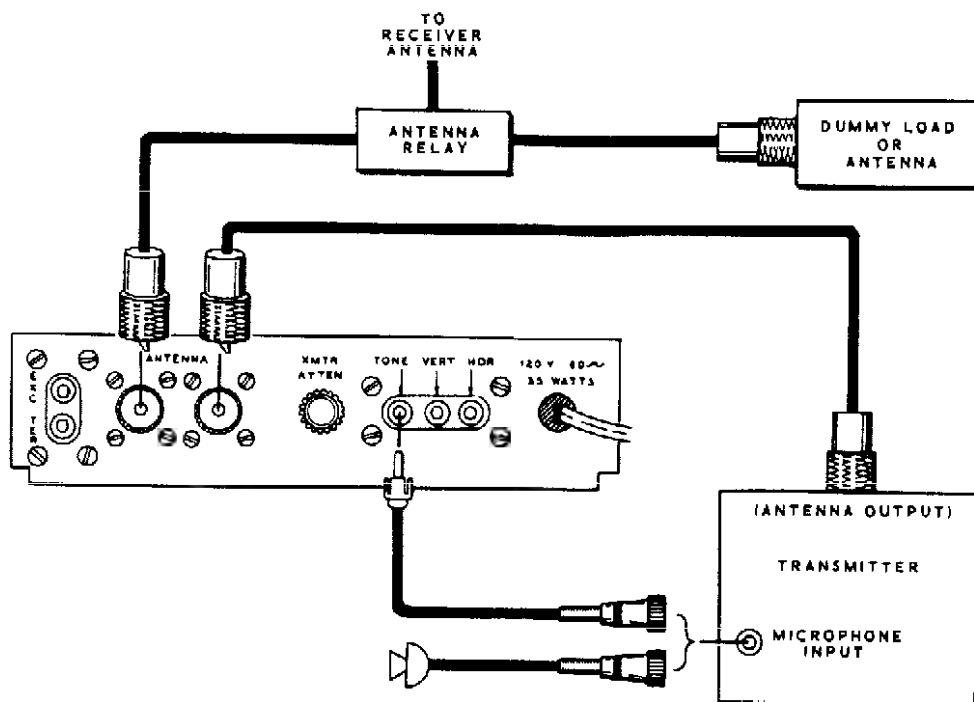

Figure 7
- (✓) Connect the Scope as shown in Figure 7.